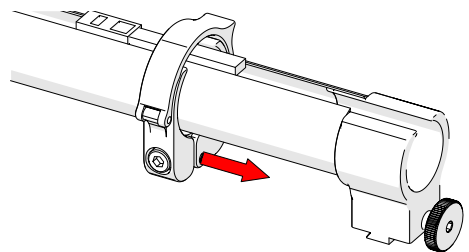

Fig. 70 - Slide clamp onto mount
3. Slide the clamp over the tube and cable management dovetail mount, pinching the tube in between (Fig. 70).